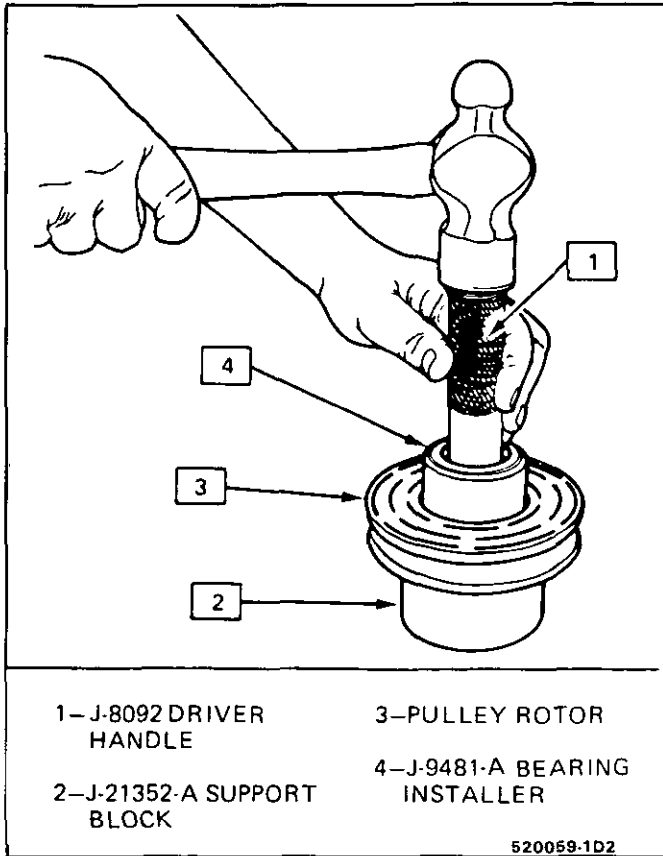

Fig. 14 Installing Pulley Rotor Bearing
- If the center screw is threaded **fully** onto the end of the compressor shaft, or if the body of the installer is held and the center screw is rotated, the key will assume the position as shown in Fig. 14 and will break the clutch hub.
1. Place the pulley rotor on the J-21352-A support block to fully support the rotor hub during bearing installation (Fig. 14).
fully into the hub (Fig. 14). The installer will apply force to the outer race of the bearing if used as shown.